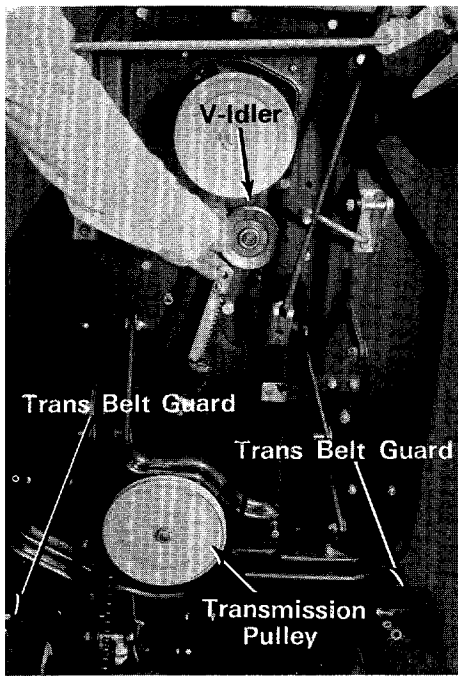

Figure 26
- 9 Remove the two transmission belt guards. (See figure 26.)
- 10 Remove the nut on the V-idler. (See figure 26.)